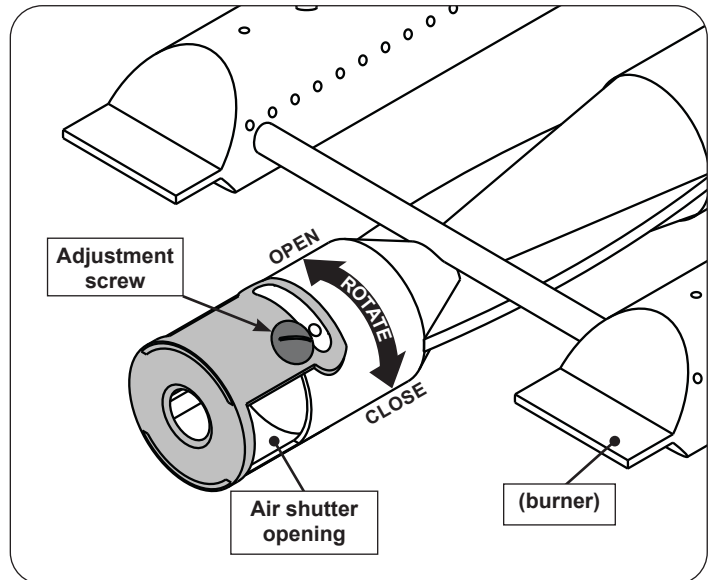

Fig. 39-2 Main burner air shutter adjustment detail
1. To adjust the air shutter, loosen the adjustment screw with a flathead screwdriver. Then rotate the shutter to open or close it. See Fig. 39-2 for details.